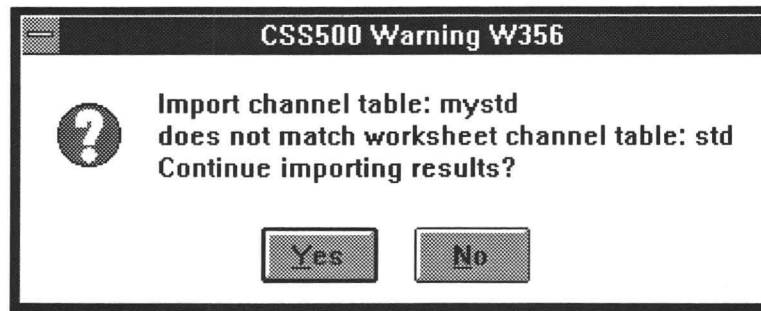

Figure 6-32. Warning if the Channel Tables between the worksheet and the 271X are not the same.
10. Choose the Yes command button to change the worksheet site name to the site from the 271X. Choosing No will attribute the imported measurement results to the Site name currently in the worksheet even if it is undefined. If the Channel Table in the worksheet does not match the one from the 271X the warning shown in Figure 6-32 appears.